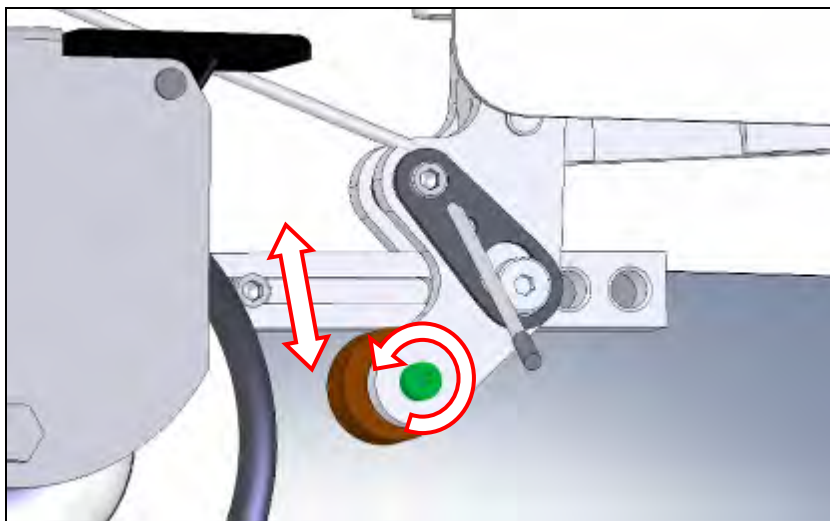

Figure 34
2. Loosening the socket head cap screw with a 3/16" Allen key and adjust the position of the round eccentrically mounted hook stop so the docking hook is at least 1/4" (6.35mm) above the scanner's bronze dock hook and is not contacting the inside top surface of the dock. (Figure 34).